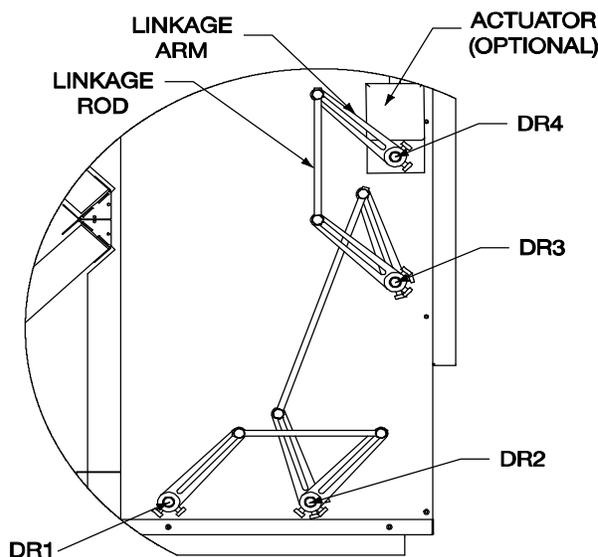

Fig. 22 — Area A Detailed View
5. Place a linkage arm onto DR3 and DR2. See Figures 22 and 23. for proper positioning. Ensure that swivel joints are fully extended to the end of the linkage arm and tighten.